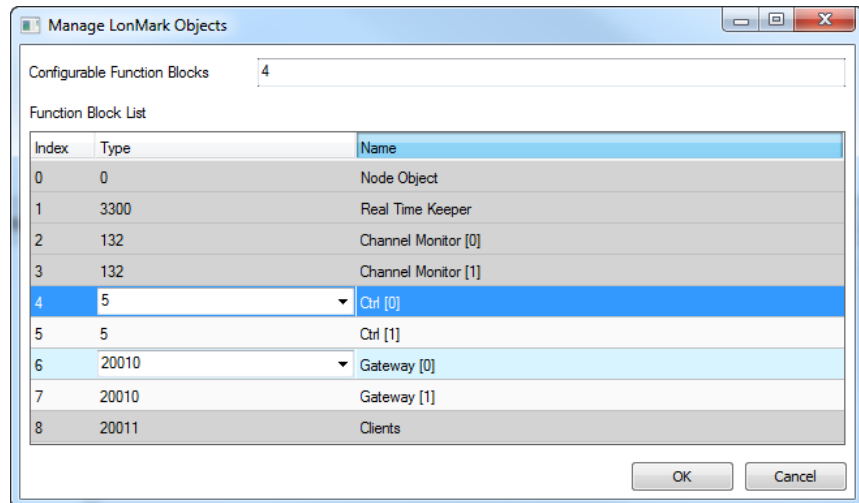

Figure 119: Manage LONMARK Objects
1. Select the menu **Tools** → **Manage LonMark Objects ...** . The dialog Manage LonMark Objects as shown in Figure 119 appears.